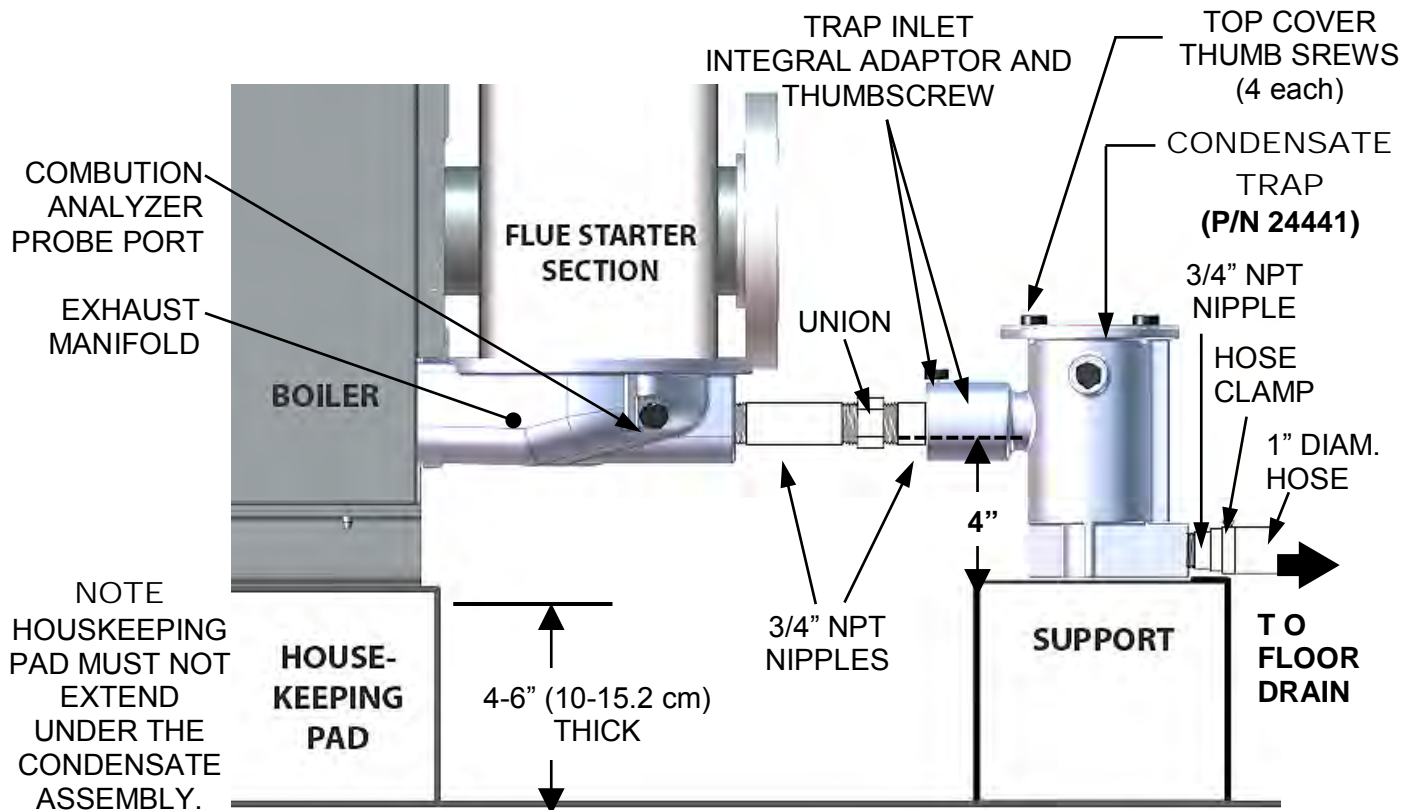

Figure2-6: Sample Condensate Trap Installation
A sample condensate trap installation is shown in Figure 2-6. However, the actual installation details for the trap will vary depending on the available clearances, housekeeping pad height/ dimensions and other prevailing conditions at the site. The following general guidelines must be observed to ensure proper condensate drainage:
- The condensate trap inlet (Figure 2-6) must be level with, or lower than the exhaust manifold drain port.
Use PVC, stainless steel, aluminum or polypropylene for condensate drain piping (Figure 2-6). Do **NOT** use carbon or copper components.